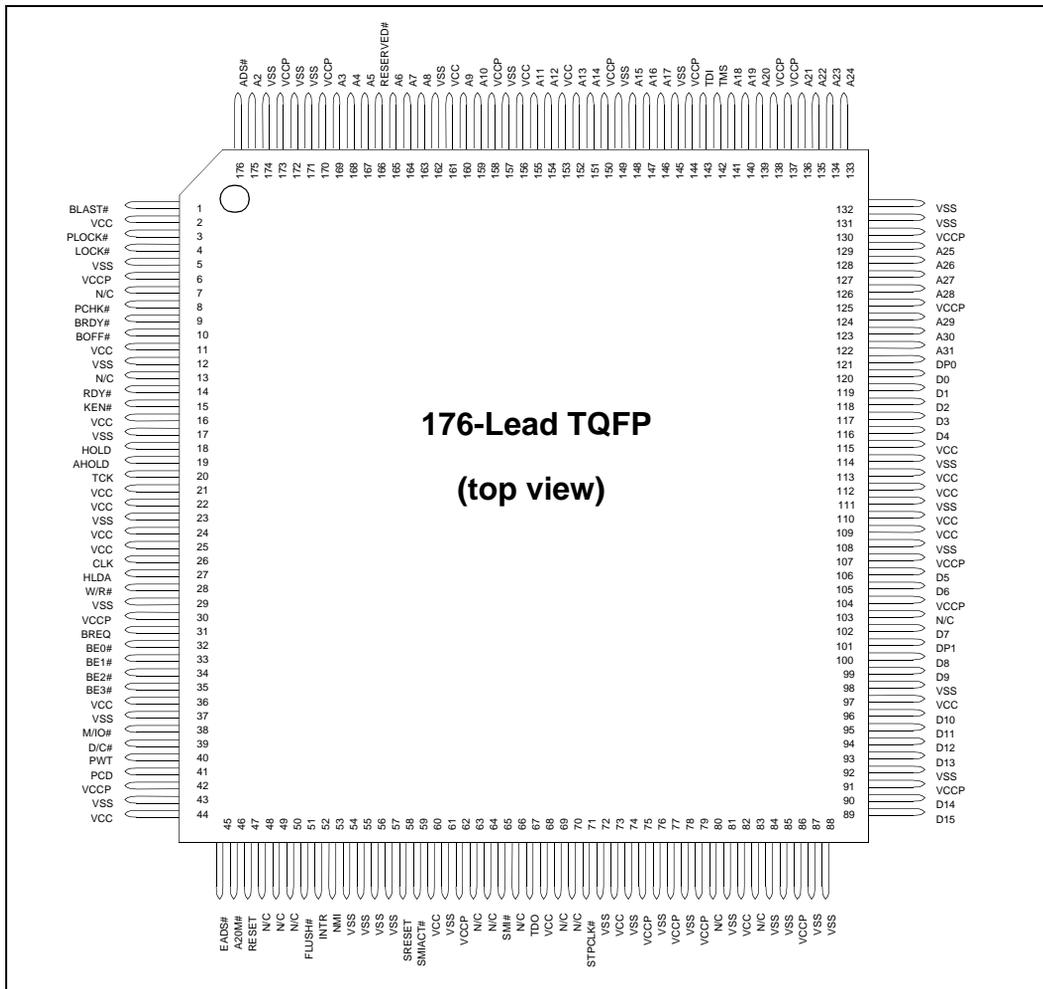

Figure 2. Package Diagram for 176-Lead TQFP Package Embedded ULP Intel486™ GX Processor
- Figure 2. Package Diagram for 176-Lead TQFP Package Embedded ULP Intel486™ GX Processor 4
- Figure 2, Package Diagram for 176-Lead TQFP Package Embedded ULP Intel486™ GX Processor (pg. 4)